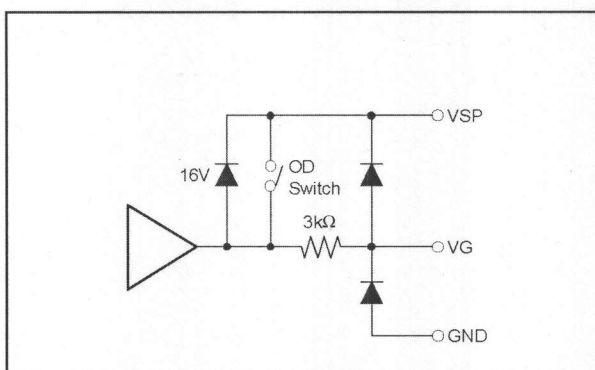

Figure 2. Equivalent Circuit for Gate Drive and Disable Switch
The gate drive (VG) can drive from close to the positive supply rail to 16V below the positive supply voltage (V_{VSP}). Most modern MOSFETs accept a maximum V_{GS} of 20V. A protection clamp is only required if a large drain gate capacitance can pulse the gate beyond the rating of the MOSFET. Pulling the OD pin high disables the gate driver and closes a switch connecting an internal $3k\Omega$ resistor from the VSP pin to the VG pin. This resistor discharges the gate of the external FET and closes the channel; see Figure 2.